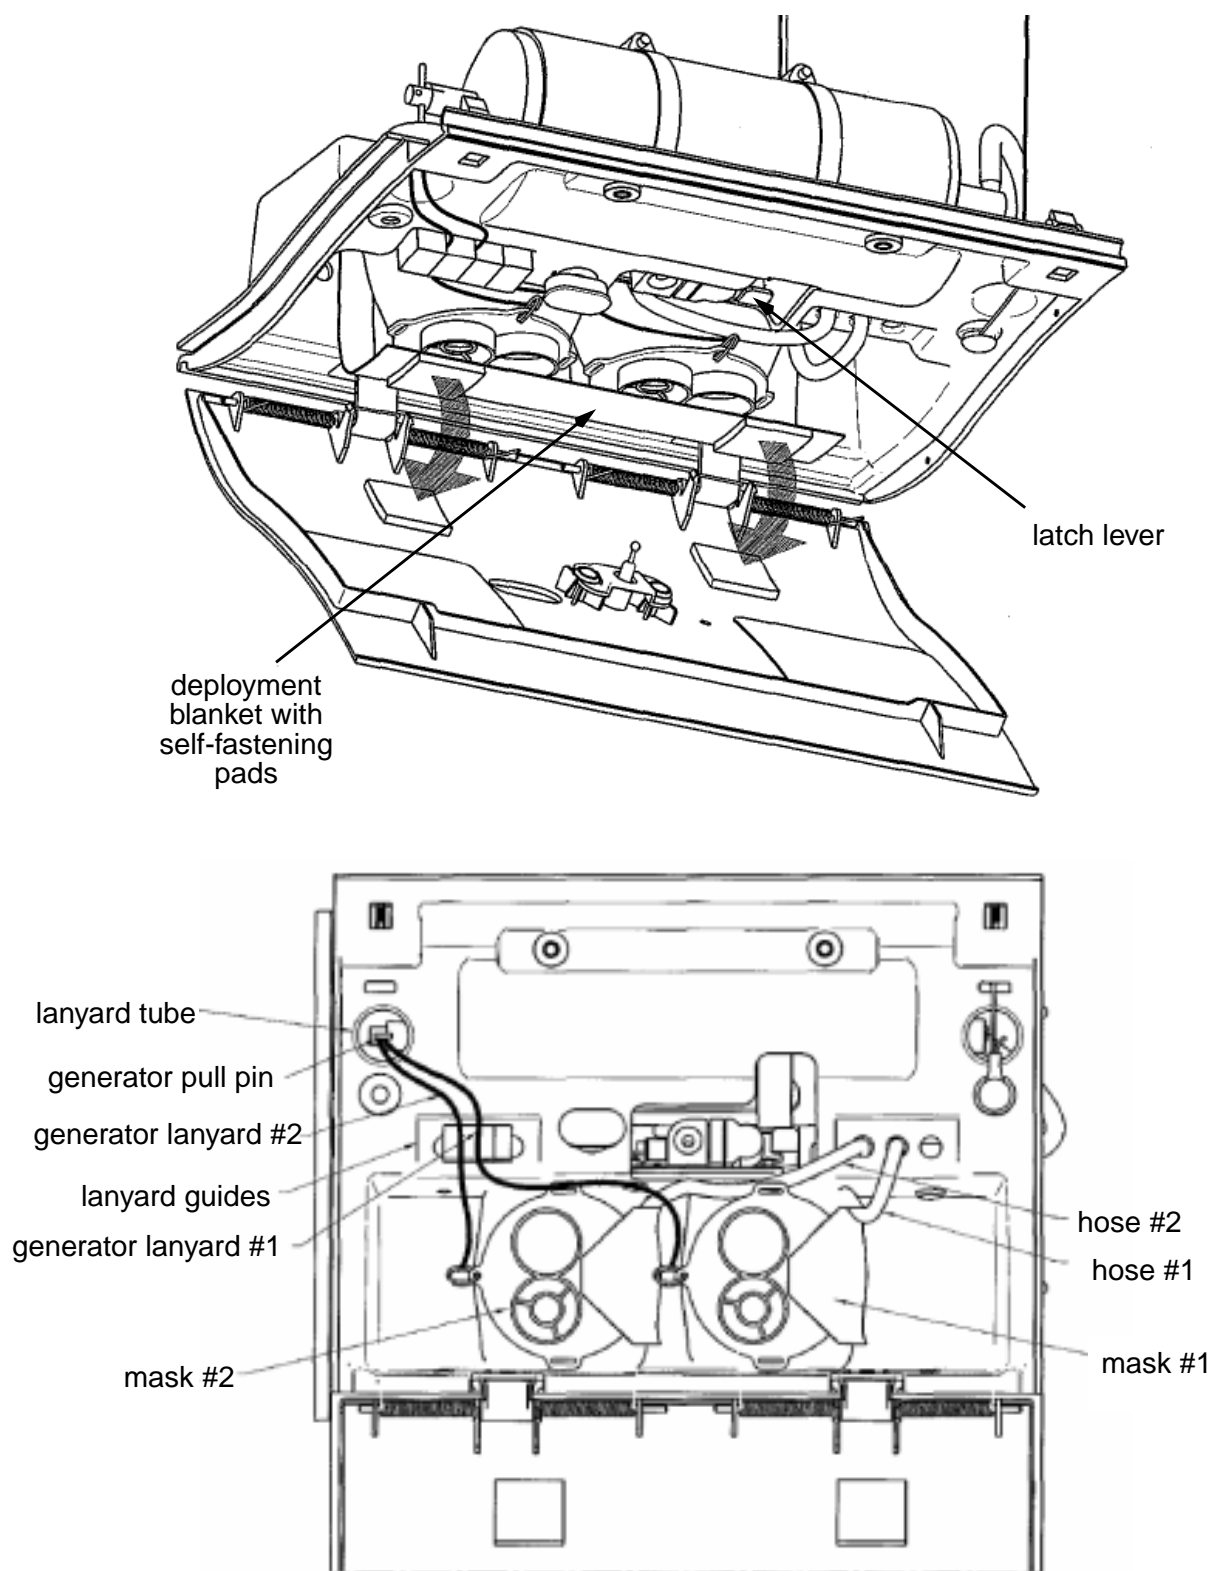

Figure 1 - Left Hand Passenger Mask Assembly
5.3 Re-Packing of Left Hand Passenger Mask Assemblies (see Figure 1)